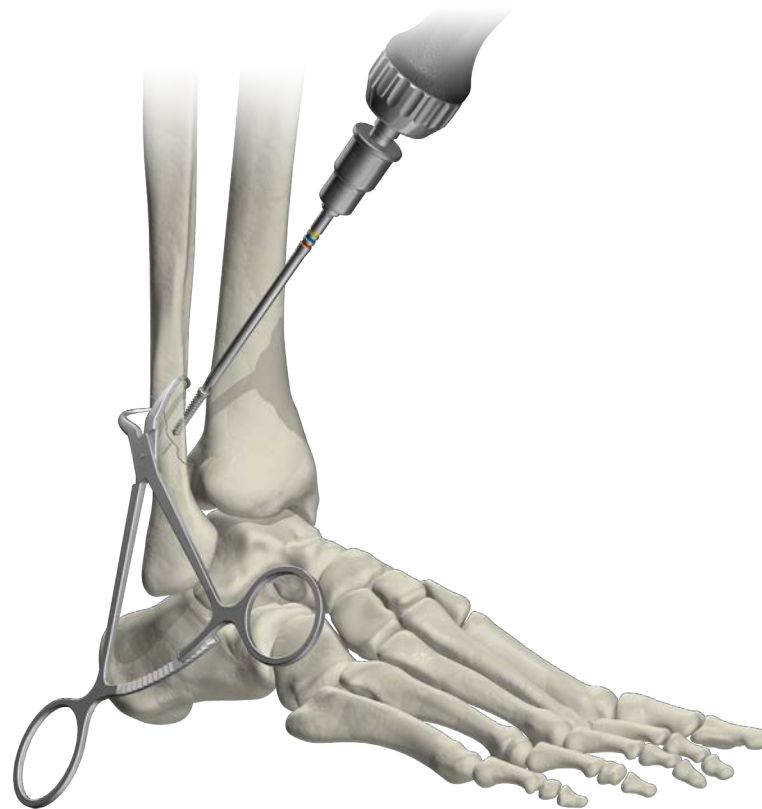

FIGURE 3
3. Measure the screw length utilizing the provided Arsenal Ankle Depth Gauge (**FIGURE 3**). Select desired 3.5mm screw length. Insert screw into the pilot hole and drive into position rotating clockwise with the driver.